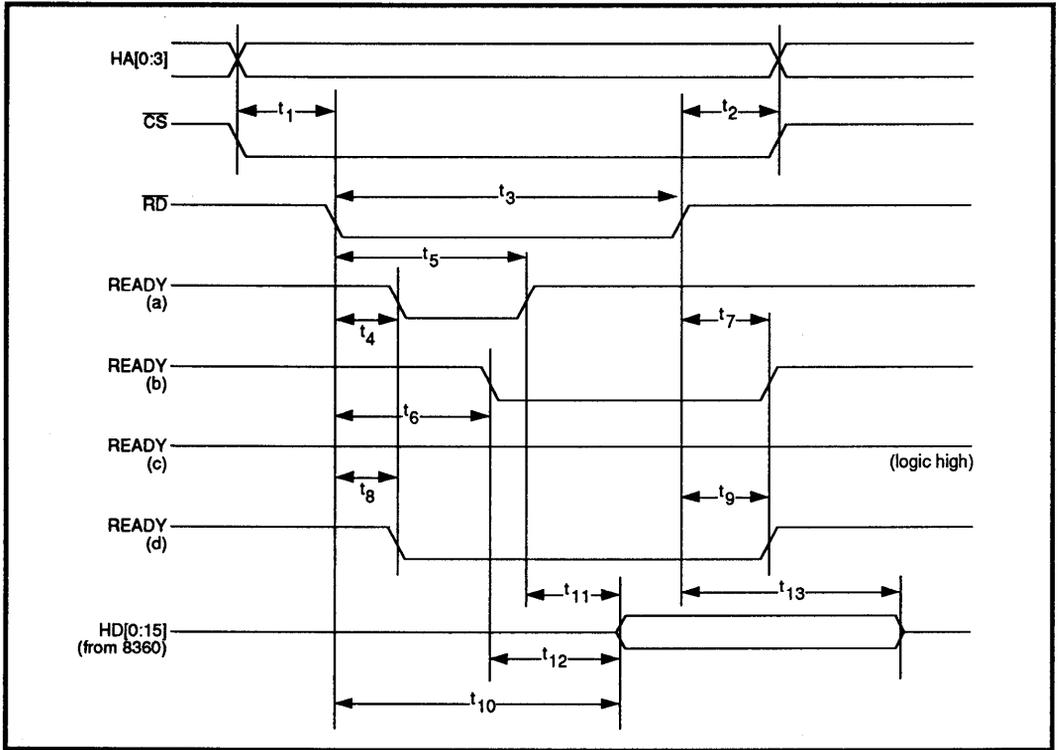
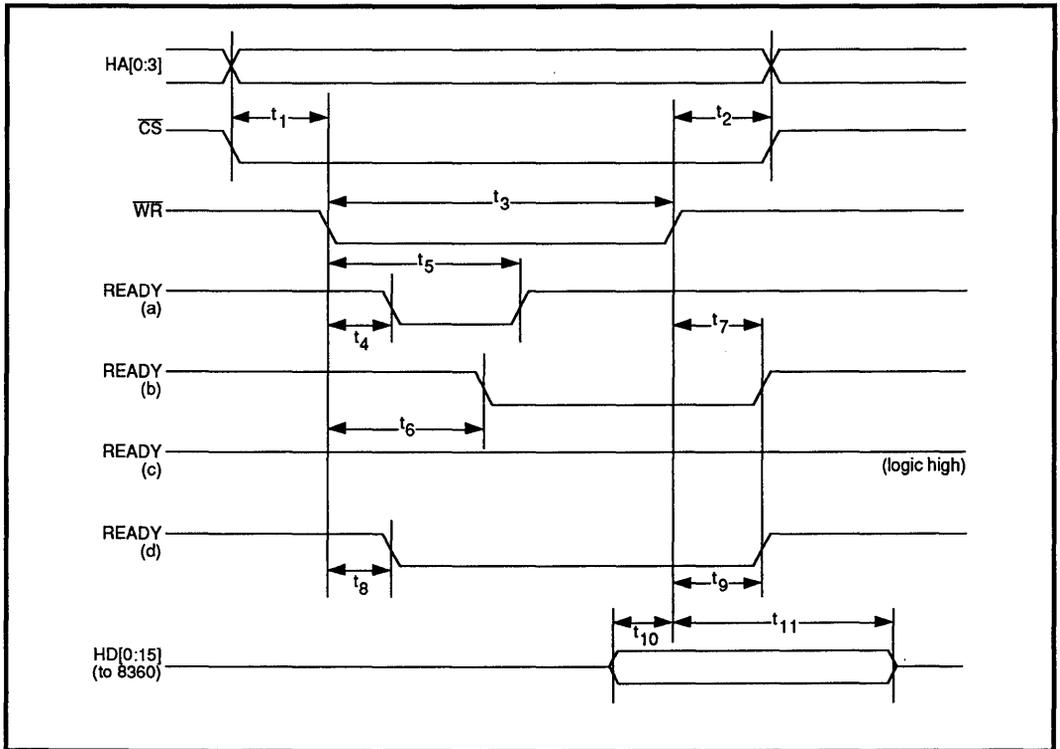

FIGURE 3: Read Cycle
FIGURE 4: Write Cycle
- Note: (1) An asserted EOP terminates any further DMREQ after $\overline{\text{DMACK}}$ returns high.
(2) The DMA cycle uses $\overline{\text{DMACK}}$ as the chip select. $\overline{\text{DMACK}}$ overrides $\overline{\text{CS}}$ and HA[0:3] if they are both asserted at the same time, forcing selection of the Buffer Memory Port as in a DMA cycle.
(3) For READY timing and HD[0:15] timing, see Figure 3, t_4 - t_{13} , and Figure 4, t_4 - t_{11} .
- Note: (1) DMREQ goes low during the next-to-last transfer of the burst. \overline{DMACK} should not go high until after the \overline{RD} or \overline{WR} pulse of the last transfer cycle goes high
(2) The DMA cycle uses \overline{DMACK} as the chip select. \overline{DMACK} overrides \overline{CS} and HA[0:3] if they are both asserted at the same time, forcing selection of the Buffer Memory Port as in a DMA cycle.
(3) For READY timing and HD[0:15] timing, see Figure 3, t_4-t_{13} , and Figure 4, t_4-t_{11} .